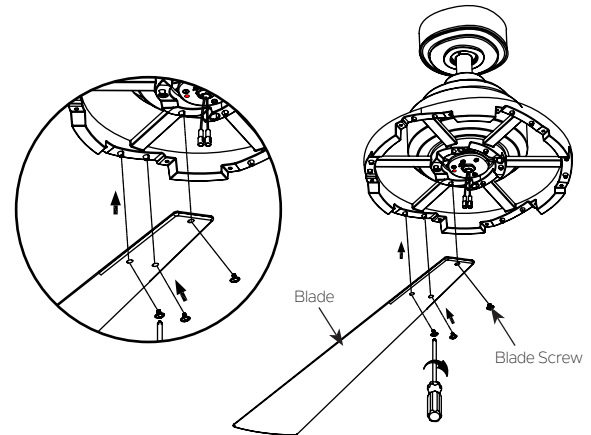

Fig. 18
Step 1. Install the 6 blades onto the motor by using the screws provided, tighten them securely. (Fig.18)